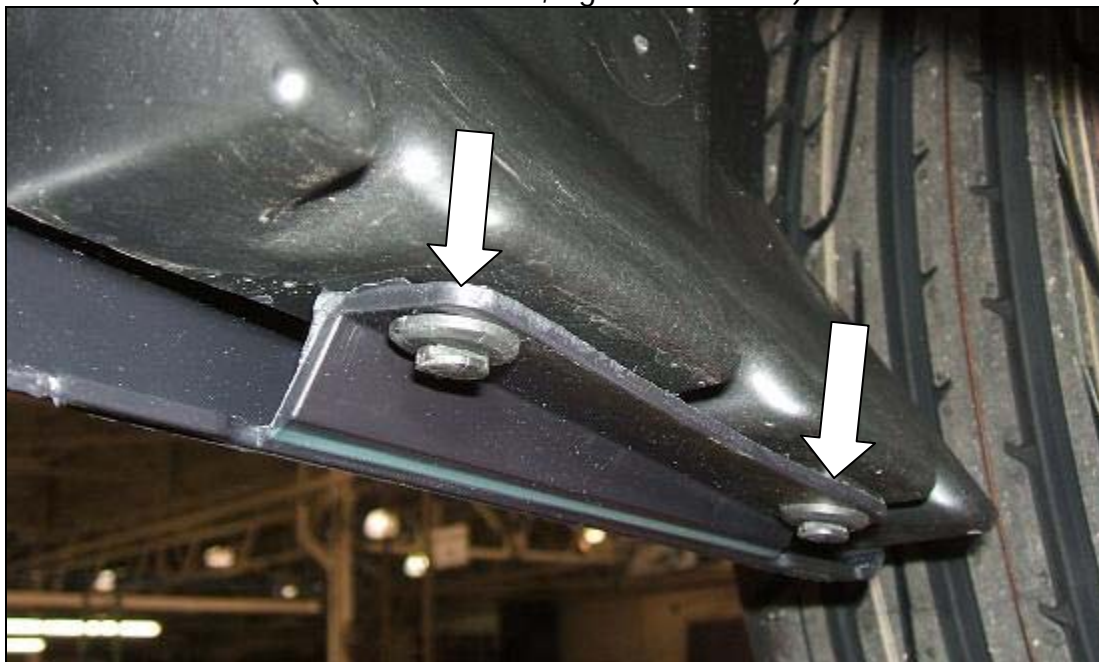

Figure 6
14. Remove four (4) push pins (two per side) from the LH & RH side lower valance mounting brackets. The push pins are a two (2) part push pin. Remove the center button first to release the barbs and then remove the push pin body. Refer to Figure 6.
30. By hand, bend the Valance lower side mounting flanges into position, aligning the holes. Reinstall the four (4) push pins (two per side) to the LH & RH lower side mounting brackets. Refer back to Figure 6. Insert the push pin body first and then the center button.